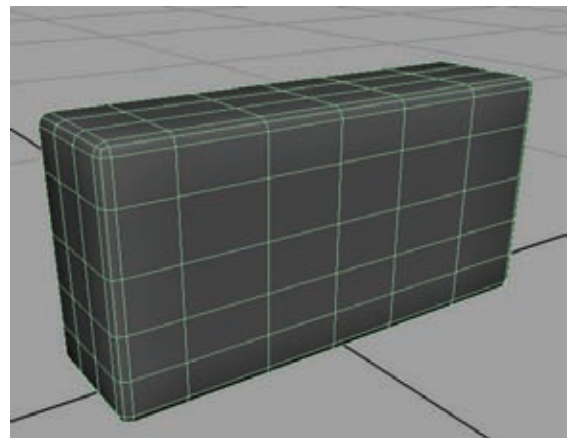

Figure 1.2
9. Change to the Front viewport and select Edit Mesh → Cut Faces Tool. Holding the Shift key to make straight cuts, click and drag to the right, cutting four or five cuts into the front of the brick, dividing it roughly into equal slices along its entire height. Do it again vertically, dividing it lengthways in the same manner. In the Side view, do the same: Cut two or three vertical slices into the brick. You should end up with something like what you see in Figure 1.2.